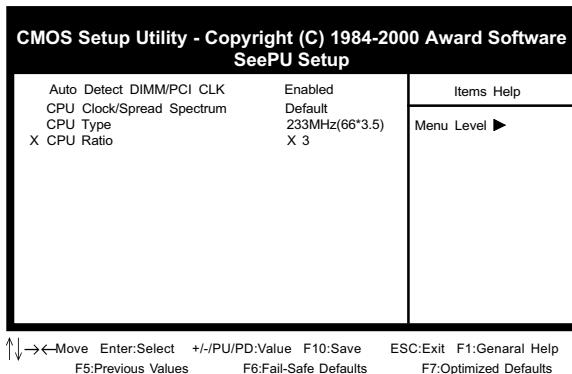

Figure 2-2
2. Move the cursor to SeePU & Chipset Setup menu and press Enter. Find the CPU Setup commands at the right hand side of the BIOS screen (Figure 2-2) Commands for operating the cursor in BIOS are found at the Bottom right of the BIOS screen.